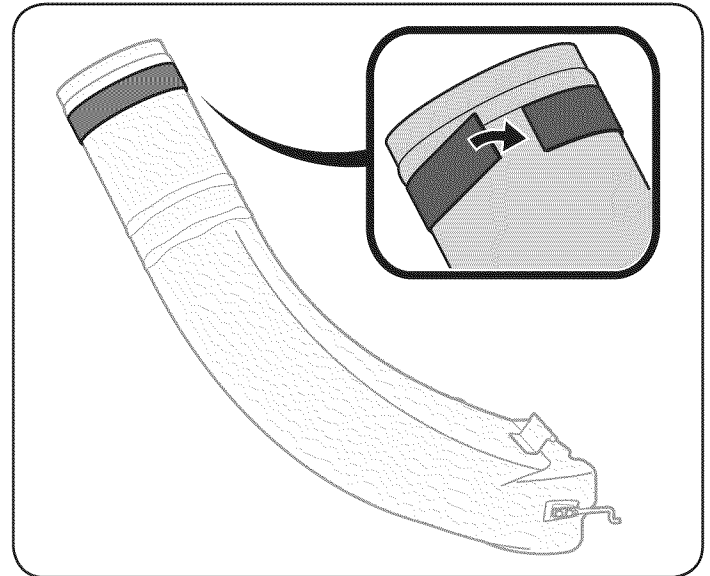

Figure 18
7. Apply the other wide adhesive rubber strip, included in Hardware Pack 689-00342, onto the upper end of the discharge chute elbow. Place the adhesive strip up against the ridge in the upper portion of the discharge chute elbow, as detailed in the inset of Figure 18.